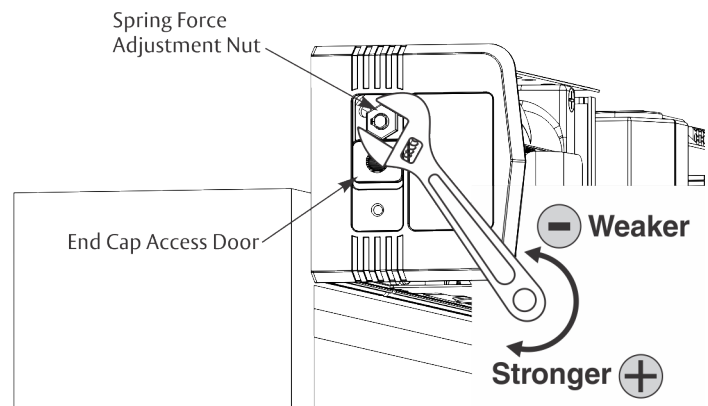

Figure 25
1. Using 11/16" wrench, turn nut in end of closer body tube to desired force. (Figure 25)
**NOTE:** If spring adjustment nut is too close to end cap and wrench will not reach nut, remove Torx screw in end cap access door and slide door open. When finished, slide access door closed and reinsert #6 Torx flat head screw to secure door. (Figure 25)